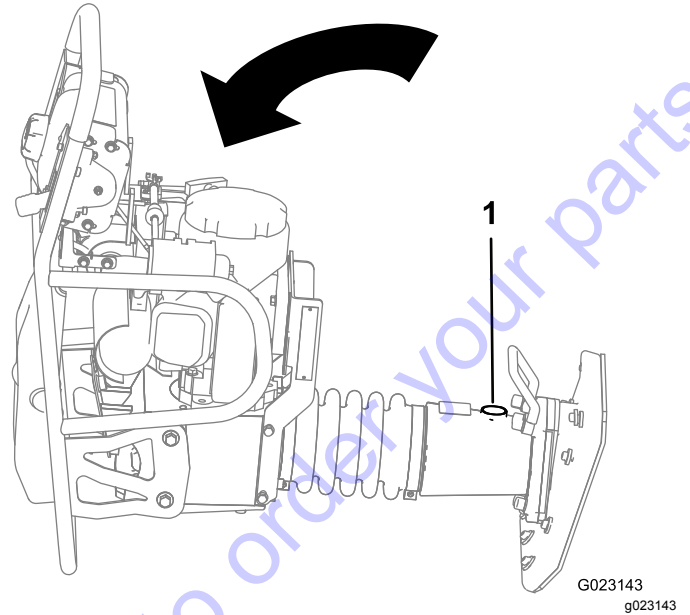

Figure 22
1. Tilt the machine so that the oil sight plug is facing upward (Figure 22).